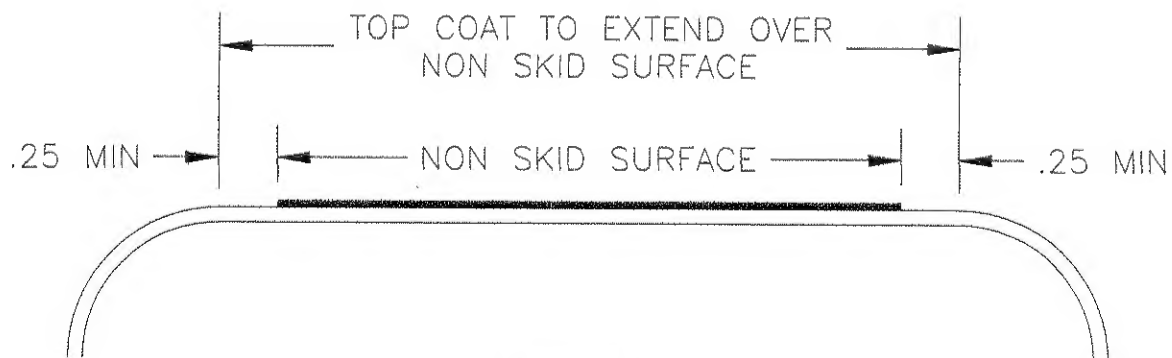

FIGURE 1
6. Remask the nonskid surface by extending the tape lines a minimum of .25 away from the non skid surface. See Figure 1.